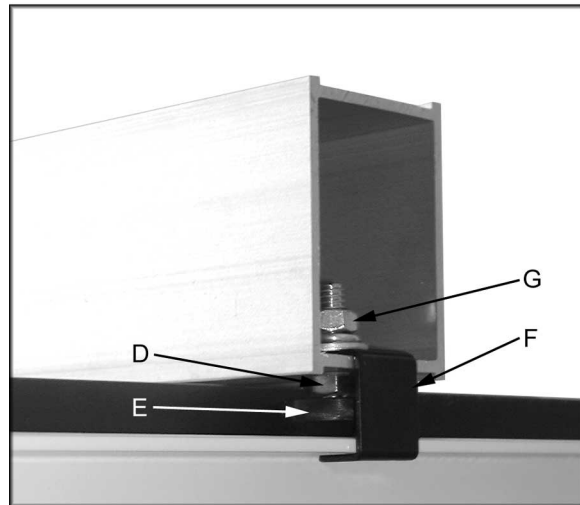

Figure 11
2. Thread a hex nut (D, Figure 11) onto the pad's threaded stud (E, Figure 11) and insert through the fence and rear hook (F, Figure 11). Secure in place using a hex nut, lock washer and flat washer (G, Figure 11).